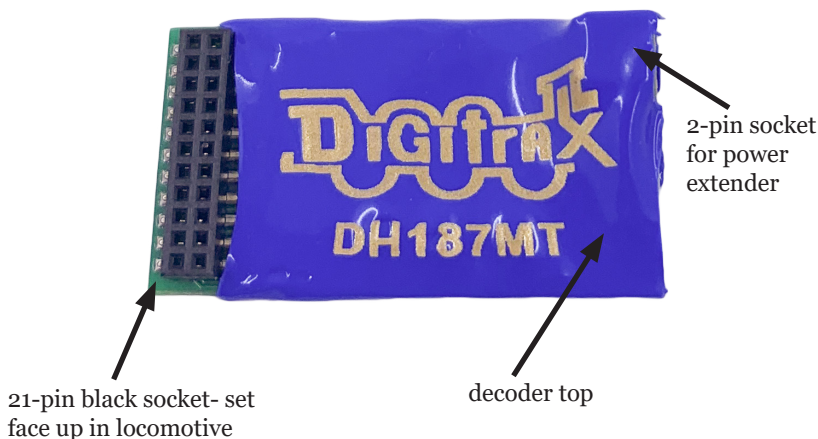

Figure 1: DH187MT Decoder showing 21-pin Track/Motor, Function connector.
Installation Instructions: Visit www.digitrax.com for the latest information and technical updates. Refer to Figure 1 for the decoder layout.
3. Plug the DH187MT decoder with the lamp board pins entering from the **underside of the decoder shown in figure 1**. There is an index pin that forces the correct left/right socket orientation. Correct install will have decoder black socket visible on topside. Do not plug in upside down, or non-warranty damage may occur,